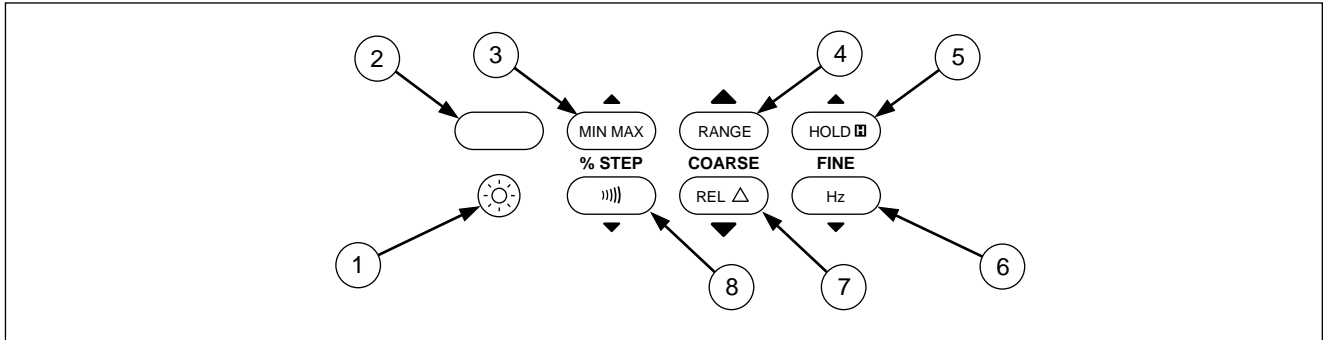

**Figure 3. Rotary Switch Positions for mA Output**
- Figure 3 and Table 4 describe the output functions you get with the last two rotary switch positions.